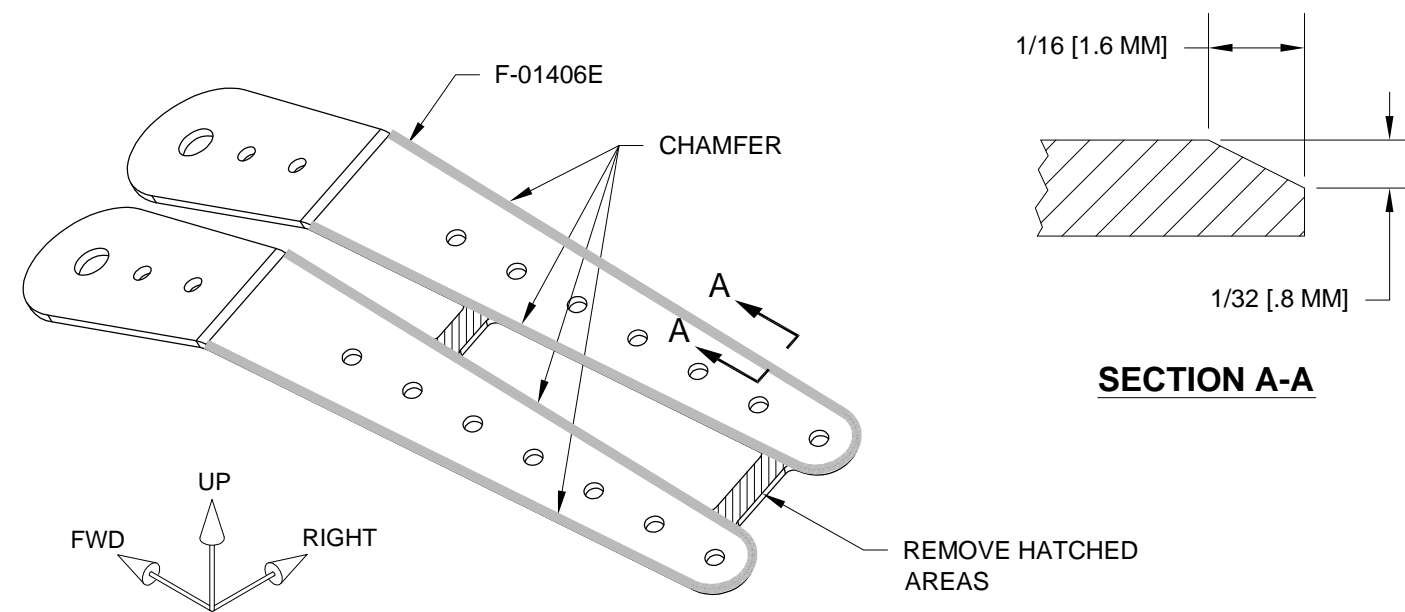

FIGURE 4: SEPARATE SHOULDER HARNESS LUGS
Step 4: Separate the F-01406E Shoulder Harness Lug as shown in Figure 4.
Step 5: Chamfer the F-01406E Shoulder Harness Lug upper edges aft of the bend as shown in Figure 4, Section A-A.